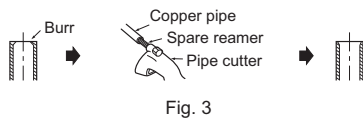

Fig. 3
- 2) Completely remove all burrs from the cut cross section of pipe. (Fig. 3)